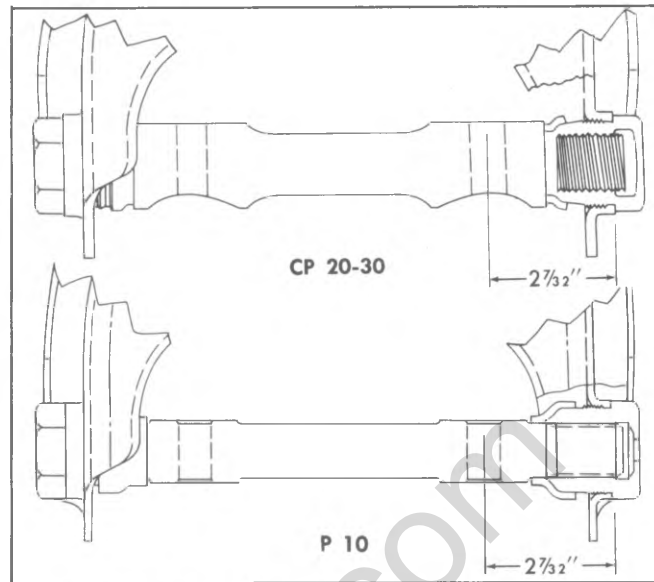

Fig. 3C-19--Positioning U.C.A. Shaft (Steel Bushings)
3. Start new bushings on shaft and into control arm. Adjust shaft until it is centered in control arm, then turn bushings in and torque to specifications. Figure 3C-19 shows correct final positioning of shaft. Check shaft for free rotation and install grease fittings.
3. Torque the shaft end nuts. See Fig. 3C-19 for proper spacing.